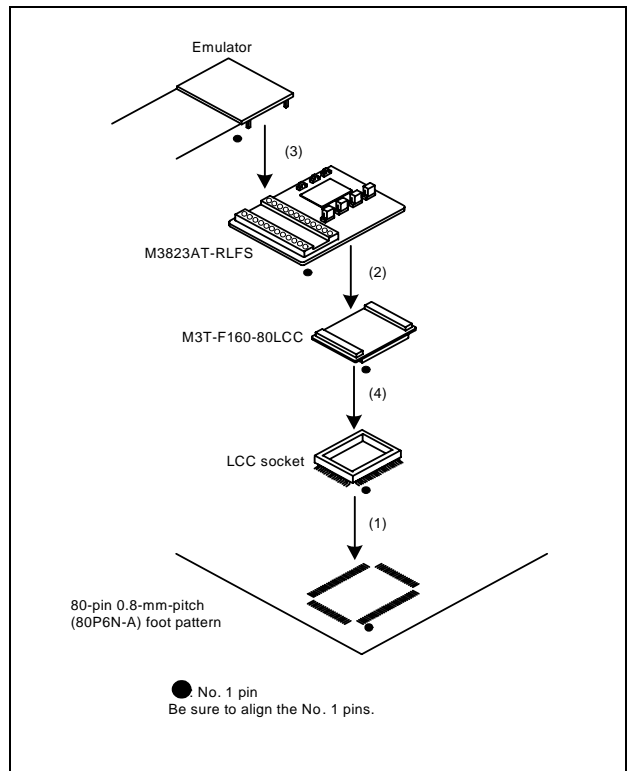

Figure 2 Connection procedure of the M3823AT-RLFS
4. Connection Procedure (See Figure 2)